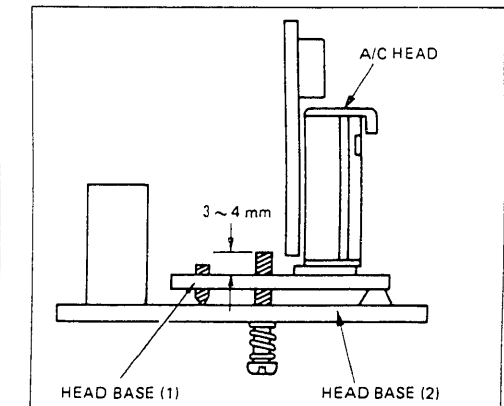
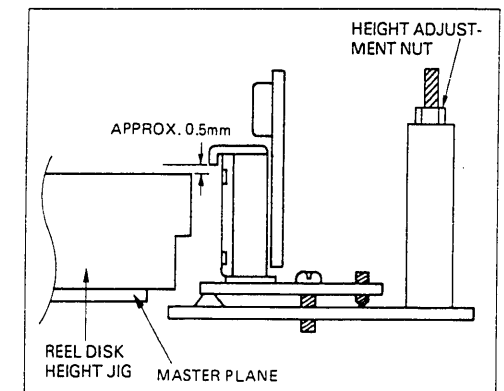

Fig. 8 Azimuth/Tilt Adjustments
Fig. 9 Height Adjustment
- 1) Tighten the A/C head fixing screw through the bottom of head base (2) via the spring so that the tip of the screw protrudes approx. 3 ~ 4 mm above head base (1). (Refer to Fig. 8)
- 2) Adjust the tilt adjusting hexagonal screw and azimuth adjusting screw so that head base (1) and head base (2) are parallel.
- 4) Place the reel disk height jig on the master plane and bring it near the A/C head, then adjust the height adjusting nut so that the gap between the reel disk height jig and the shield case of the A/C head is approx. 0.5 mm. (Refer to Fig. 9)